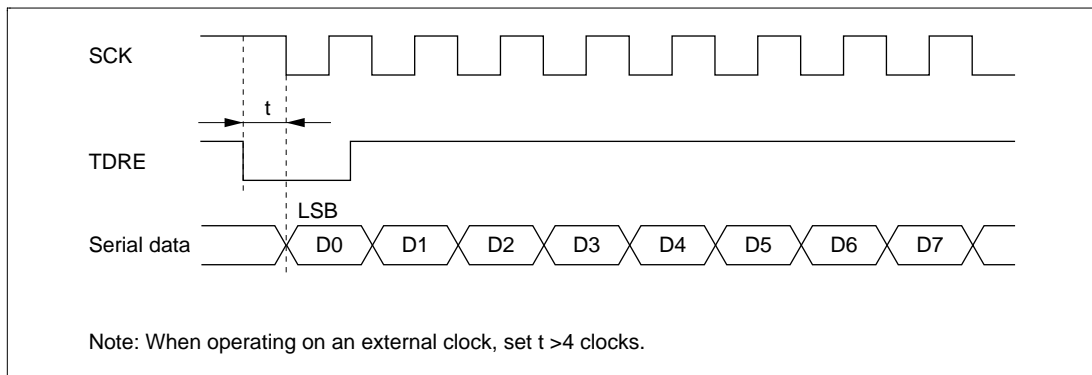

Figure 12-22 Example of Clocked Synchronous Transmission by DTC
- When an external clock source is used as the serial clock, the transmit clock should not be input until at least 5ϕ clock cycles after TDR is updated by the DTC. Misoperation may occur if the transmit clock is input within 4ϕ clocks after TDR is updated. (Figure 12-22)